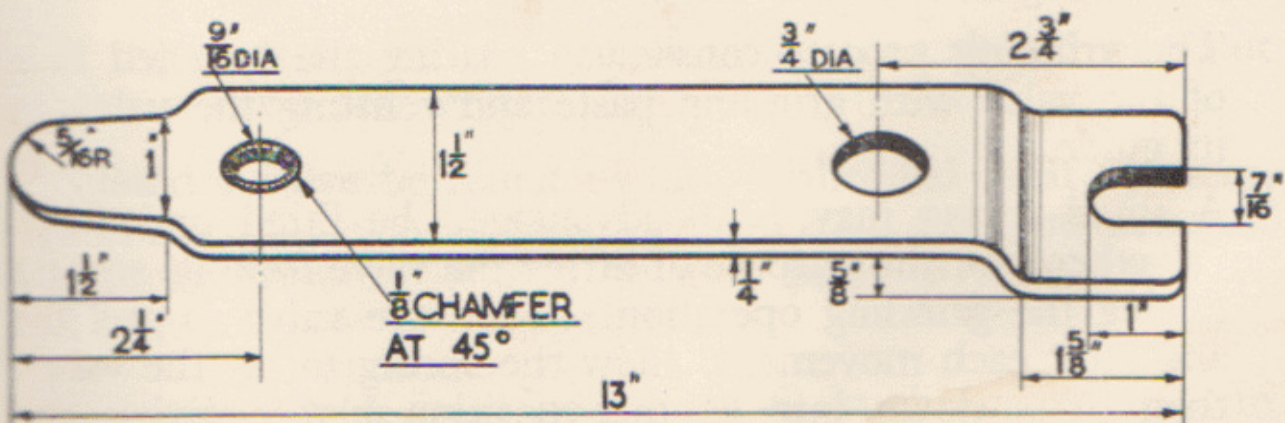

Fig. 40. Valve spring compressor and lever for cylinder head removal.
14. To remove cylinder head, first remove all nuts with the exception of the two dome nuts immediately under the sparking plug holes in number 1 and 4 cylinders, these nuts should be slackened off two or three turns. This will allow a lever to be used in order to "break" the joint between the cylinder head and the block, should there be a tendency to stick. Insert one end of the lever (Fig. 40) in the recess for the plug, *not in the plug hole or the threads will be damaged*, and using the dome nut as a fulcrum, "break" the joint between the head and the block.